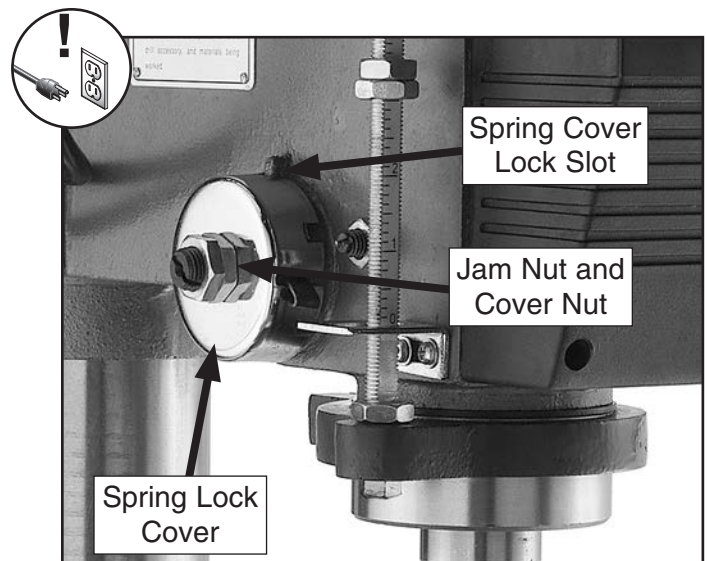

Figure 44. Feed shaft return spring assembly.
2. Wipe off any oil on the spring lock cover so it does not slip in your fingers when you hold the cover from spinning (see **Figure 44**).